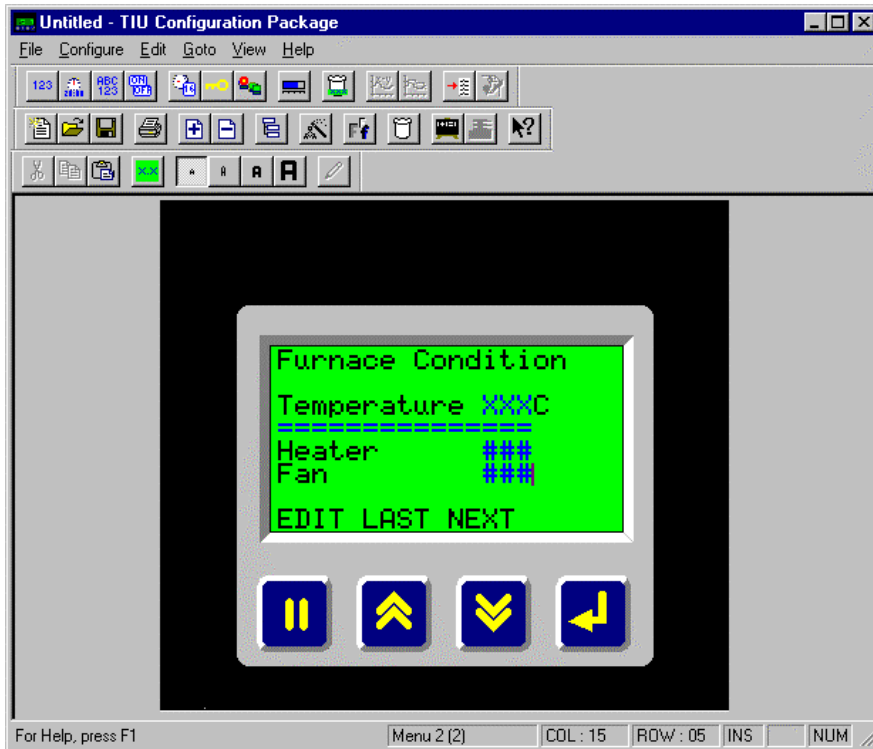

Figure 7.3 – Menu Page 2
6. After embedding the data, the screen looks like Figure 7.3.